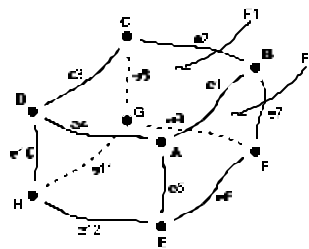

Figure 2. “Actual” Solid
- Operations and algorithms are used to create solids resulting in vertices that may not lie exactly on edge curves and edge curves that may not lie exactly on surface intersections. The “actual” or “real” solid may have gaps, etc as in Figure 2.
- Scenario: CAD-X creates the valid solid in Figure 2 using a tolerance of .003mm to determine if vertices are on edge curves. Topology structures would state A and B are start and end vertices of edge curve e1, B and C are start and end vertices of e2, etc. Edge curve e1 forms the boundary of F1 and F2, etc.